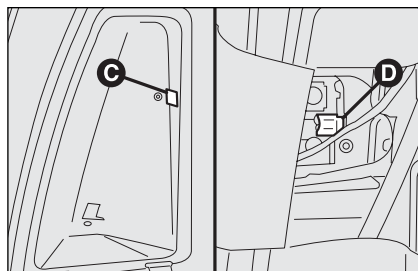

fig. 37
- ☐ hold the tongue **C**-fig. 37 and open the door for the rear light unit access;